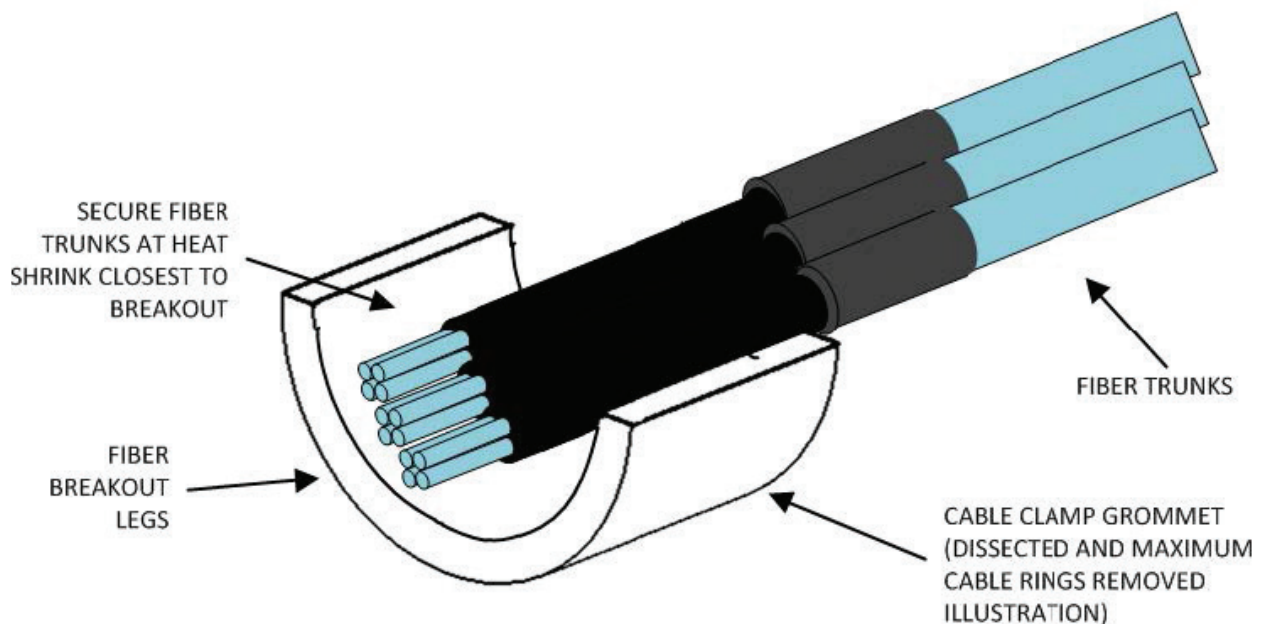

Figure 24
6.1.4.1 Secure each trunk at the heat shrink as shown in Figure 24.